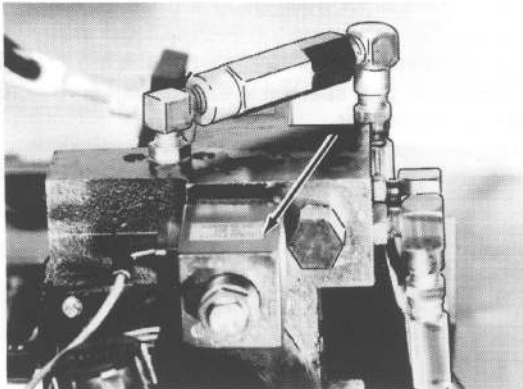

Figure 2-11
2. Remove nut, spacer and coil. See Figure 2-11.